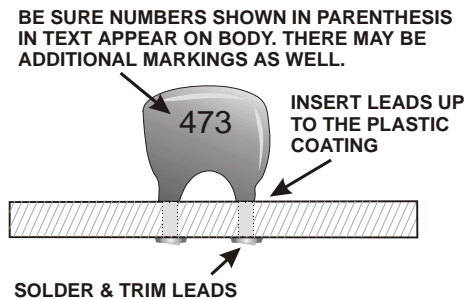

Figure 9. Installing Capacitors.
Install capacitor C1, .047 μ F (473) on the *back* side of the PCB (the side that is *not* silk-screened). Position the capacitor as shown in Figure 9